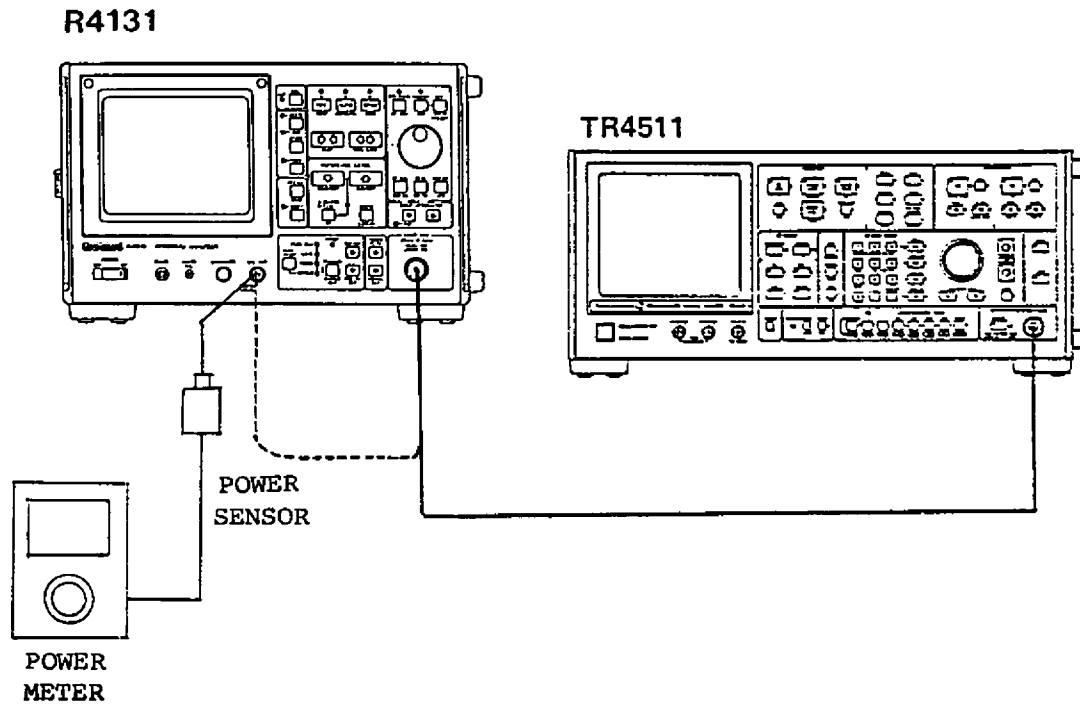

Figure 11-25 Calibrated Output Accuracy Test Setup
- ① Press the R4131 ZERO CAL switch.
- ② Set the synthesized signal source to 200 MHz, -30 dBm.
- ③ Connect the synthesized signal source to the spectrum analyzer INPUT connector. Set the span to 100 kHz while turning the TUNING dial to position the 200 MHz signal in the center of the display screen.
- ④ Next, connect the CAL signal to INPUT connector. (See Figure 11-25) Check that the center frequency is 200 MHz \pm 30 kHz, or less.